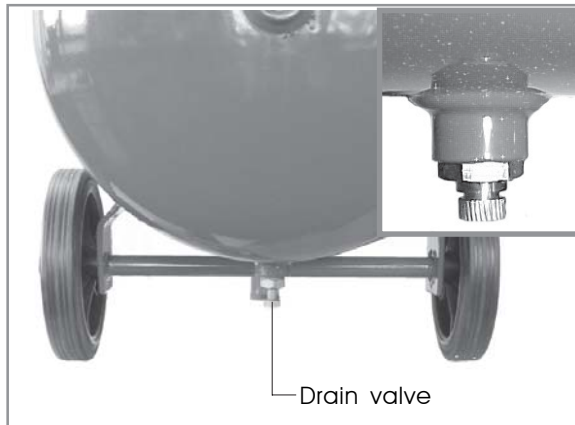

Figure 11
- 2 Carefully undo the drain valve anticlockwise until you hear a hissing noise, this is the reservoir depressurising. See figure 11.